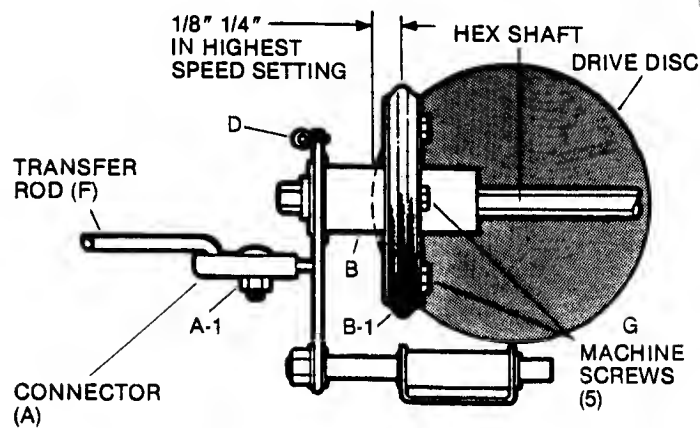

FIG. 13 -DRIVEN DISC COMPONENTS
DRIVEN DISC ADJUSTMENT: Stop the engine and shift the GROUND SPEED CONTROL (12) into the highest setting. The CENTER of driven disc should be $1/8"$ to $1/4"$ from the EDGE of the drive disc as shown in FIG. 13. To re-adjust, loosen connector hex nut (A-1) and slide the driven disc in or out as required. Re-tighten connector hex nut to secure the driven disc in the proper position.